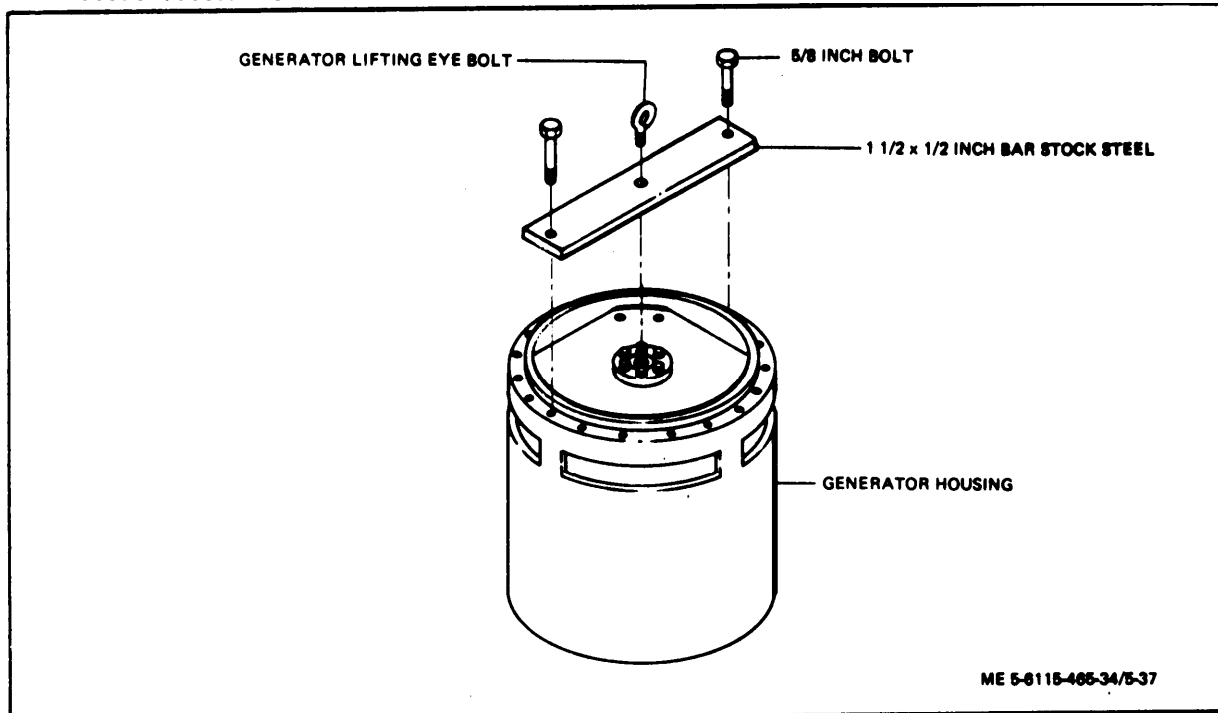

Figure 5-37. Securing Generator Rotor to Stator
(9) Thread five turns of screw (18) into rotor shaft and, using a suitable puller, remove bearing (23).
(10) Support bearing on the head of a suitable press and press out adapter (24).
(11) Remove the lifting eye bolt from the generator stator.
(12) Cut a sufficient length of 1/2 inch bar stock steel to fit across the diameter of the coupling disc end of the generator assembly.
(13) Center punch and drill a 1-inch hole through the center of the bar stock.
(14) Secure the bar stock to the rotor assembly using the generator lifting eye (see figure 5-37).
(15) Locate and center punch a hole at each end of the bar stock in line with the generator housing mounting holes.
(16) Remove the generator lifting eye and the steel bar.
(17) Drill a 5/8 inch hole at each center punched position.
(18) Secure the steel bar to the stator (generator housing) with two of the screws used to secure the generator to the engine flywheel housing.
(19) Install the generator lifting eye bolt.
(20) Using a suitable lifting device, lift the generator by the eye bolt and stand it on its end bell
If the alternator assembly is to be sent to a higher level, the rotor assembly must be secured in the stator assembly to prevent damage while in transit. The bar stock steel illustrated in figure 5-37 can be used for this purpose.